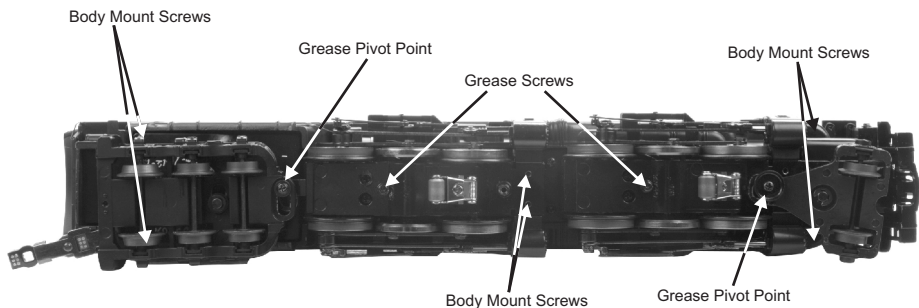

Figure 8: Body Mount Screws and Grease Points
3. Remove the Phillips screws (marked “GREASE” in Fig. 8) and the gearbox cover screws.
You should also grease the leading and trailing locomotive truck tongues to enhance their ability to slide on the chassis. Follow the grease points shown on Fig. 8.